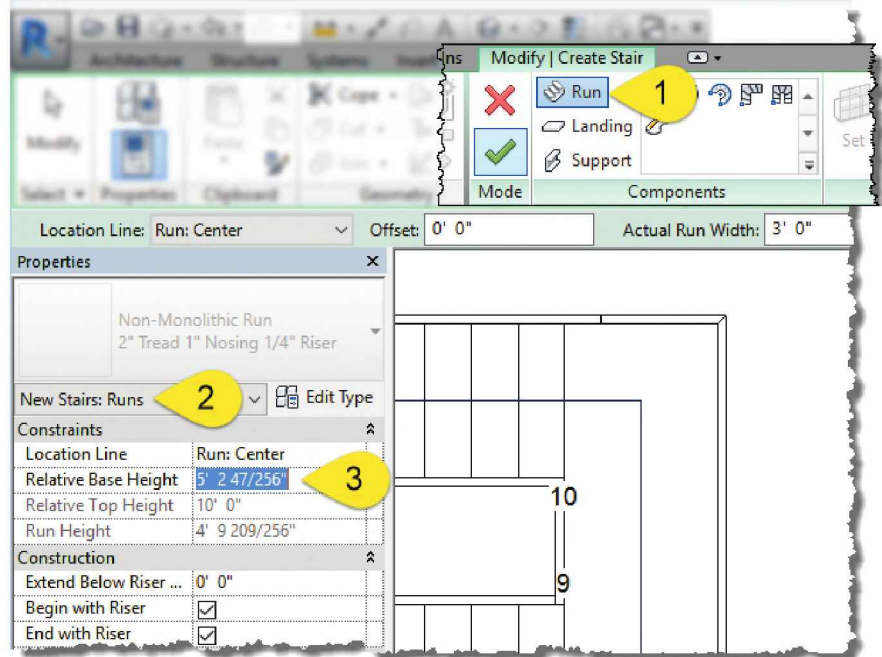

FIGURE 5-3.20 Adding an extra stair run from an intermediate landing
- Select the **Run** command on the *Ribbon* (Step #1, Fig. 5-3.20)
- Switch the *Properties Palette* drop-down to **Run** (Step #2, Fig. 5-3.20)
- Paste the landing height into **Relative Base Height**; **CTRL + V** (Step #3, Fig. 5-3.20)